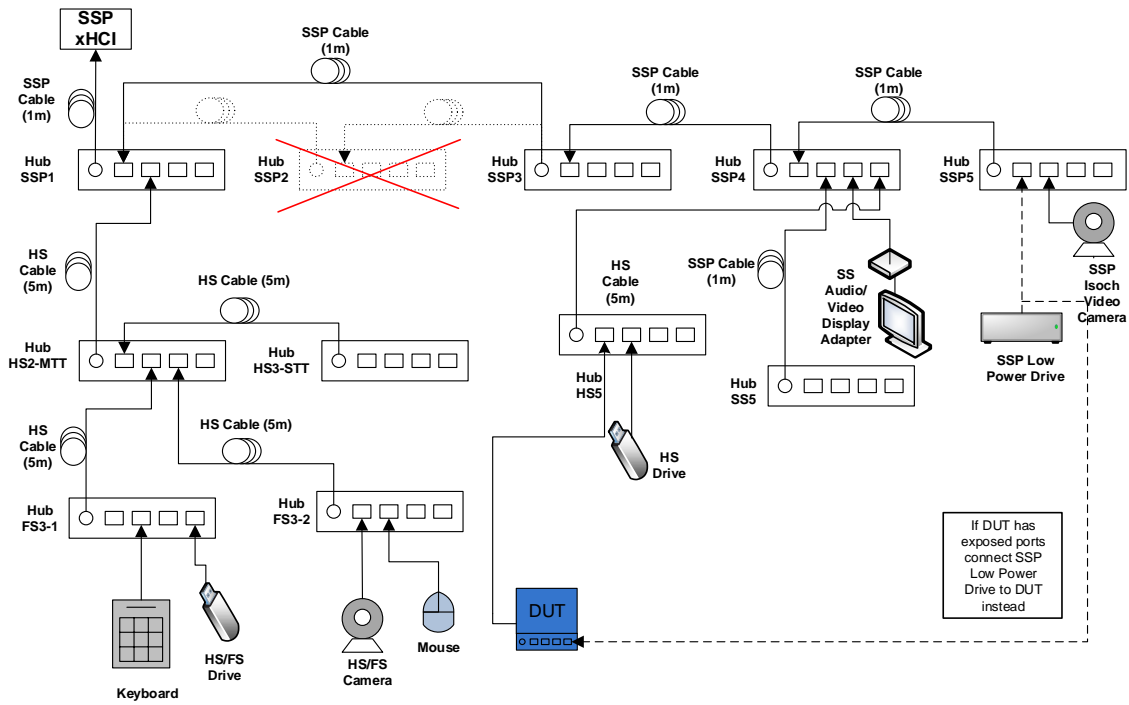

Figure 6-9: Interop Tree with Compound Device - Topology Change 2
- While operating the devices, attach the Device Under Test to port 1 on Hub HS5 as shown below in Figure 6-9 through Figure 6-12.